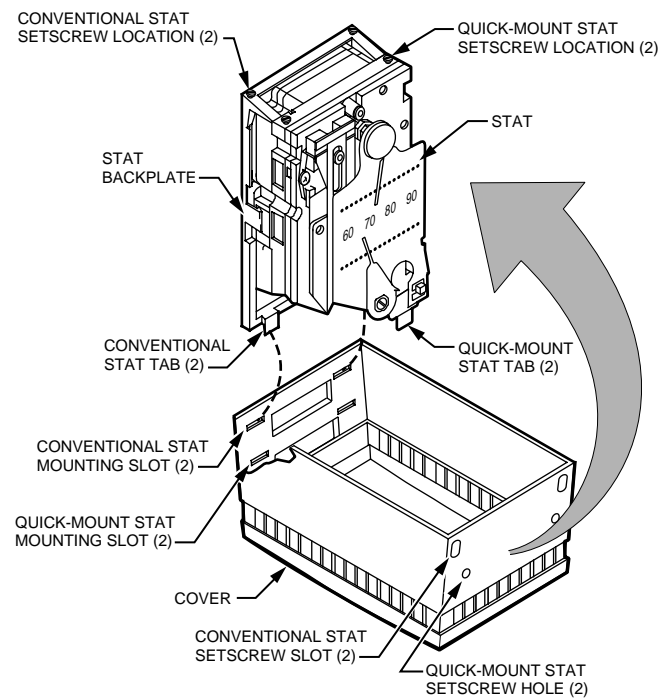

Fig. 17. Replacing Cover.
1. Hook slots at bottom of cover over two bottom tabs of stat (Fig. 17). Setpoint adjustment will align with setpoint slot.